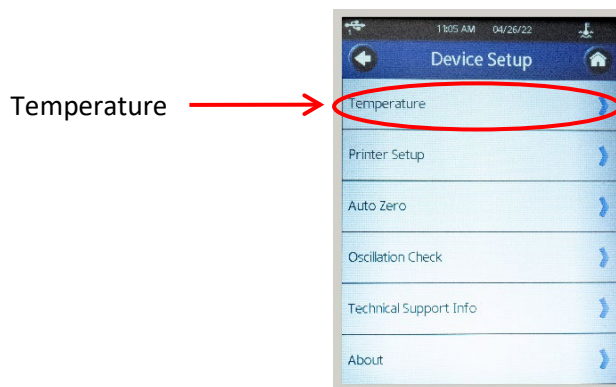

Figure 57: Device Setup Screen
6. Press the **Temperature** button. See Figure 57.